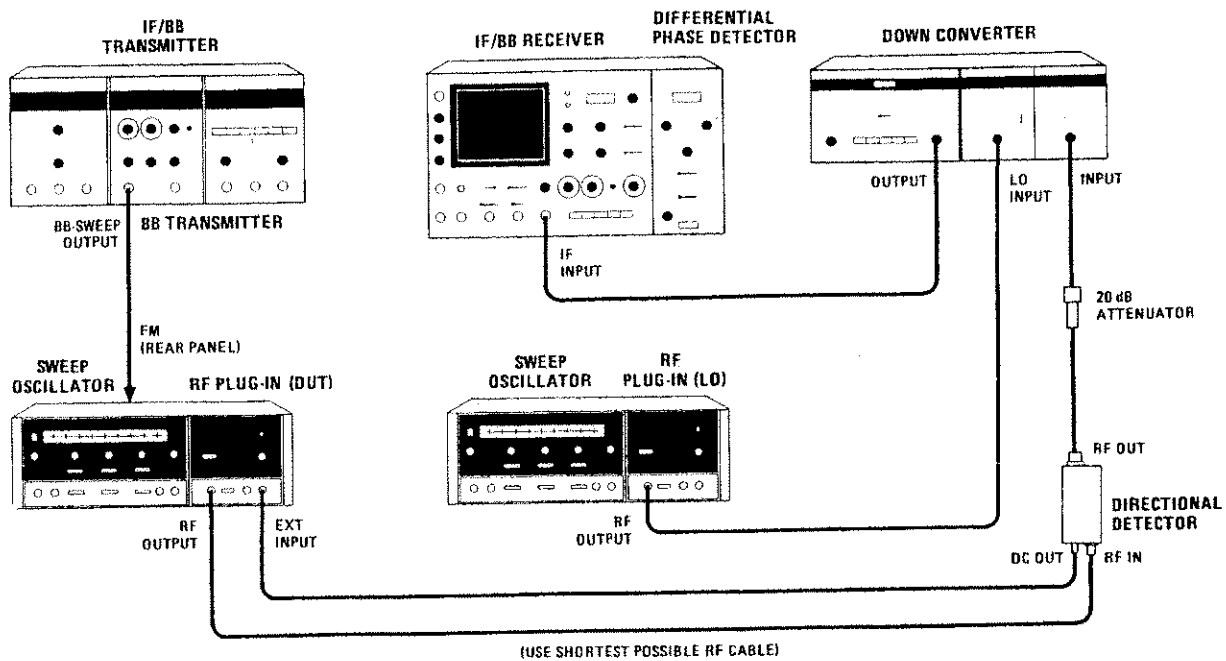

Figure 4-24. Up Converter Simulation Test Setup
- a. Connect equipment as shown in Figure 4-24. Press LINE Pushbutton ON on both 8620C mainframes. Allow 30 minutes warmup time.